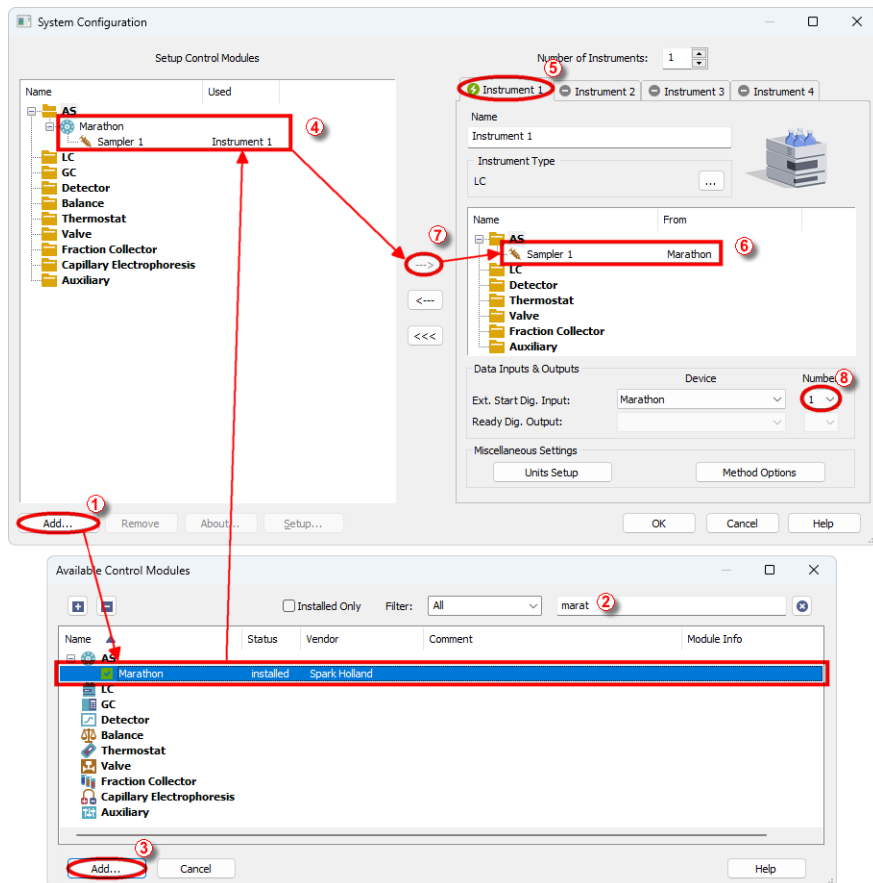

Fig. 4: System Configuration
- Press the **Add** button ① (see **Fig. 4** on pg. 5.) to invoke the **Available Control Modules** dialog.
- You can specify the searching filter ② to simplify the finding of the driver.
- Select the **Marathon** sampler and press the **Add** ③ button.